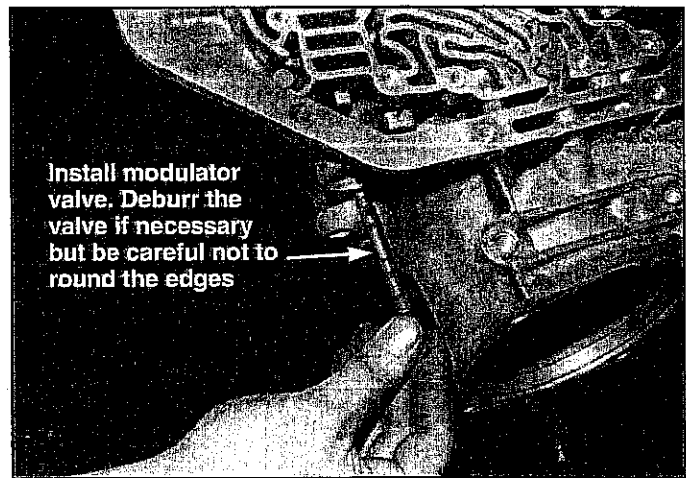

FIGURE 40
STEP 1. Install the modulator valve into the case. (See Fig. 40) The valve should move freely with no bind. If any sticking is encountered deburr the valve with a stone and work the valve in and out carefully until it frees up. Remove the valve and blow out the bore in the case to remove dirt. Install modulator valve.